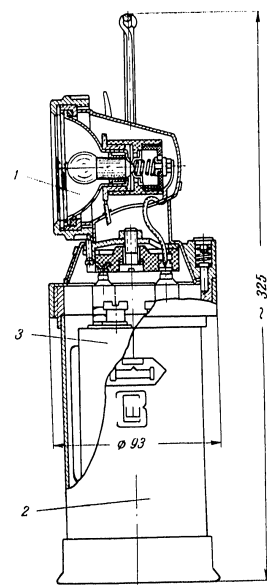

Fig. 1. Mining Inspectors' Accumulator Lamp JIAT-2
Mining Inspectors' Accumulator Lamps, type JIAT-2 (Fig. 1), are used for intensive illumination of limited areas of underground work in mines of all categories by inspectors. For this purpose, the headpiece of the Lamp comprises a headlight with a reflector, focusing light in a large solid angle in one direction.
The Lamp (Fig. 1) consists of three main parts: a casing (2), a headpiece (1) screwed to a jar and an alkaline accumulator (3), type 2 IIIЖКН-8.